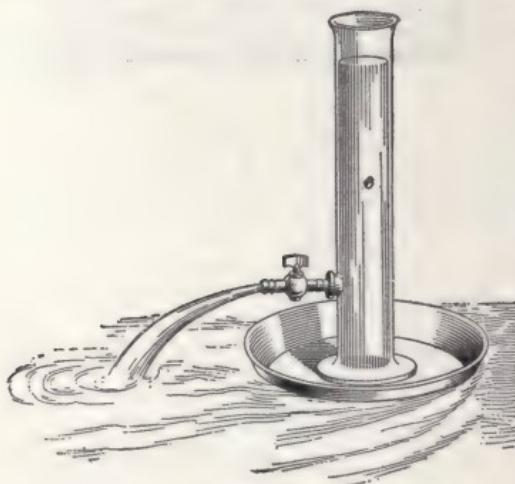

FIG. 7.
**15.** The effects of lateral pressure are illustrated in Fig. 7. In the figure, *e* is a tall vessel having a stop-cock near its base and arranged to float upon the water, as shown.